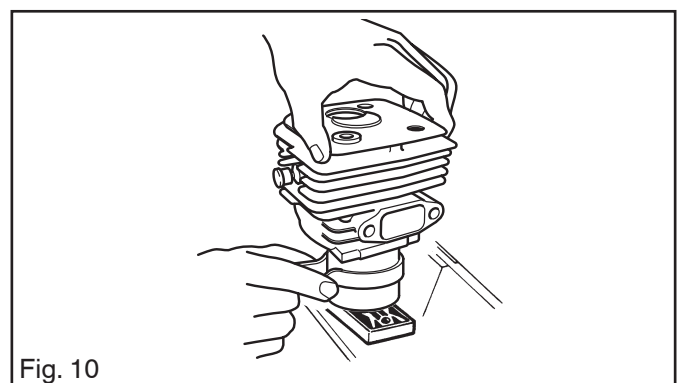

Fig. 10
7. Compress the piston ring (See fig. 10), either by hand or with special tool (*Refer to "3 Service tools" on page 8*). Carefully fit on the cylinder.